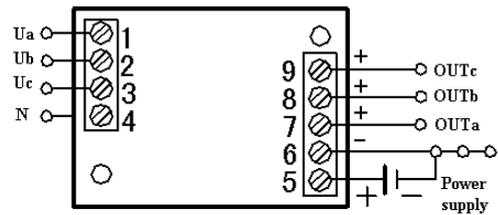

Figure 3, CE-VJ41 DC power supply, AC three-phase three-wire input, voltage or current output wiring diagram
- ①Fix the transducer on the side of the card slot and hook on the mounting rail;
- ②Pull the spring pin down;
- ③Clip the transducer mount on the mounting rail;
- ④Release the spring pin and clip the transmitter on the mounting rail.
- ①3mm diameter hole in the fixed plate according to the screw hole position shown in Fig. 3;
- ② Use the screw Φ3 to insert into hole and secure it.